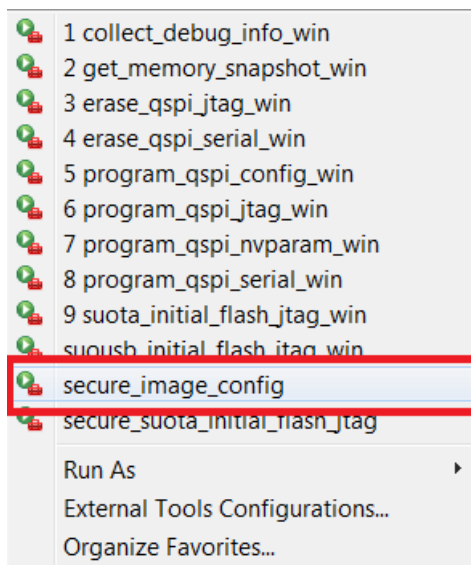

Figure 50: secure_image_config Python script
3. Use secure_image_config.py Python script as show in Figure 50. Answering on few questions will be required during script execution as shown in next figures.